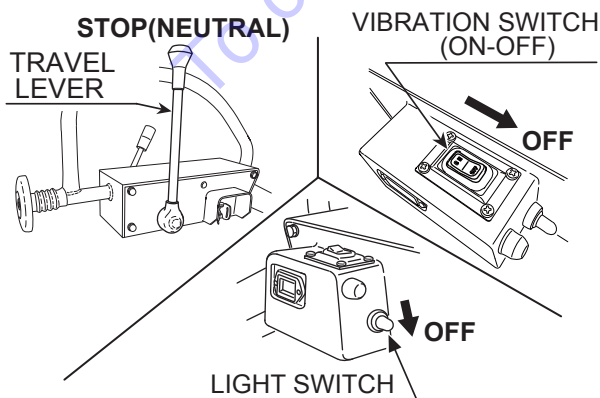

Figure 12. Travel Lever, Vibration Switch and Light Switch
2. Move the travel lever to the stop (neutral) position (Figure 12).
3. Move the vibration on/off switch to the off position (Figure 12).
4. Move the light switch to the off position (Figure 12).